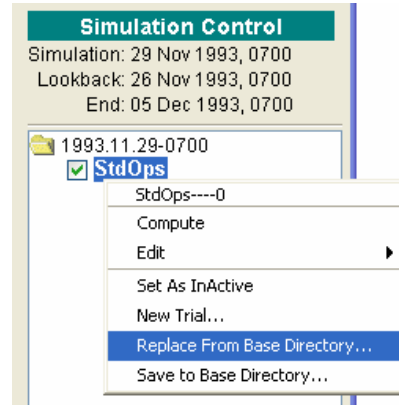
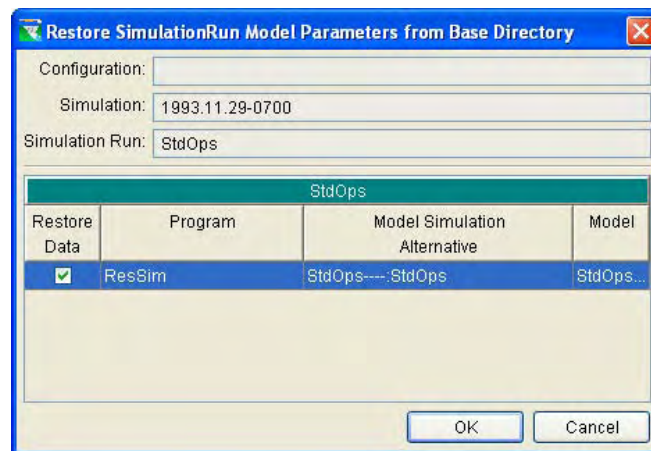

Figure 14.66 Alternative Shortcut Menu: Replace from Base Directory
Figure 14.67 Replace Simulation Run Model Parameters from Base Directory
1. From the Simulation Control Panel, right-click on the Alternative to access the shortcut menu, then choose **Replace from Base Directory** (Figure 14.66). The **Replace Simulation Run Model Parameters from Base Directory** dialog box will appear (Figure 14.67).